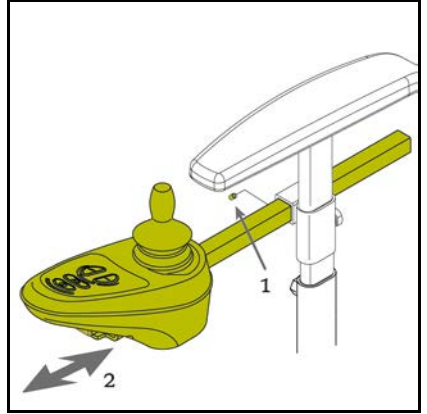

Figure 4.13
**Controller depth setting (fig 4.13).**